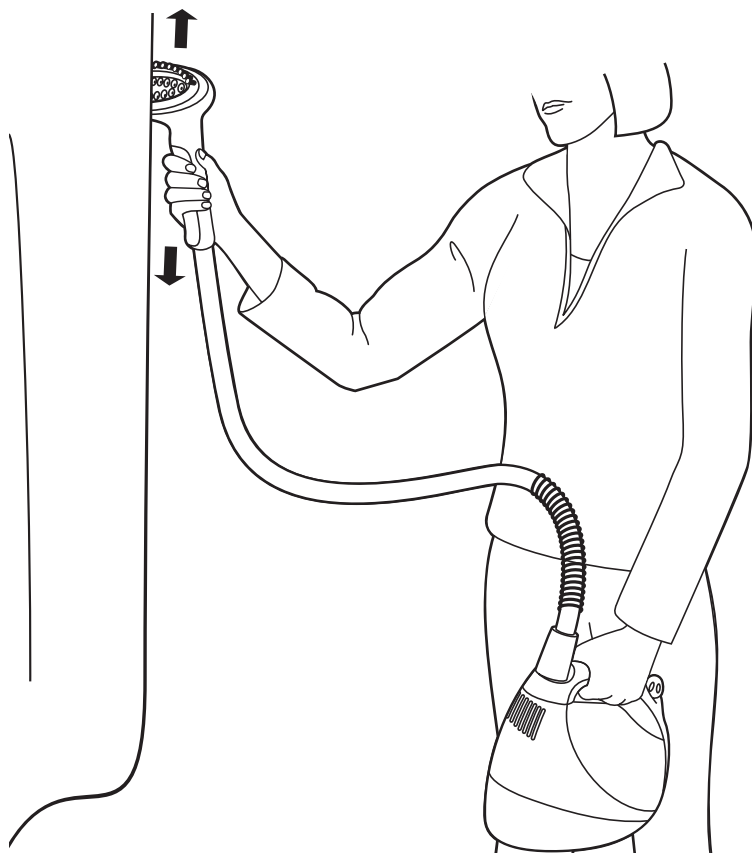

fig. 12
- 4 Hold the steam unit at waist level in one hand or place on a table. (fig. 12)